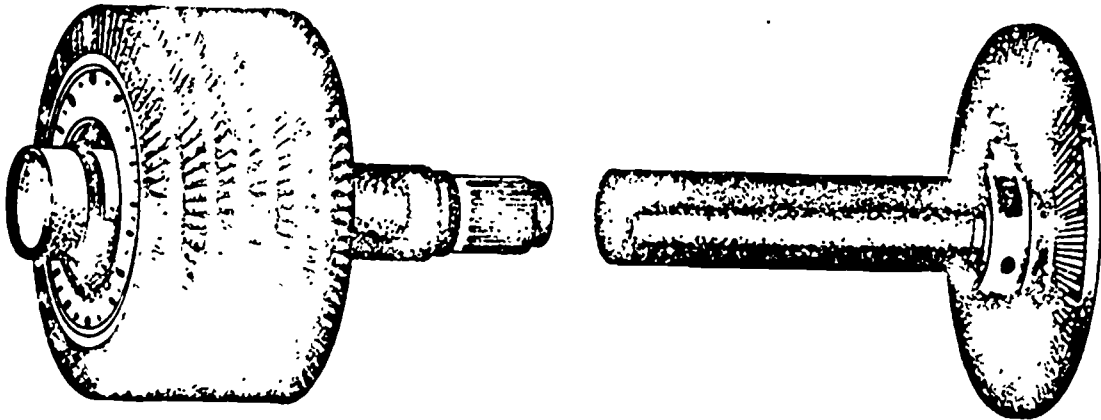

Figure 8A. Major Rotating Assembly.
(2) A T56 engine has _____ major rotating assemblies. (Figure 8A)